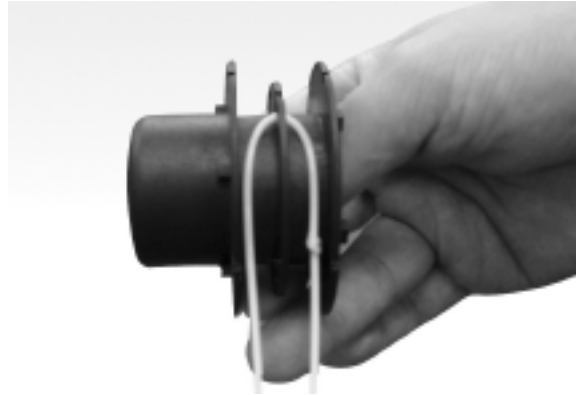

Fig. 13
4. Using 0.065" replacement line measure off approximately 14' of line. Double over the cutter line into two equal lengths and place loop in slot of the spool divider (Fig. 13).